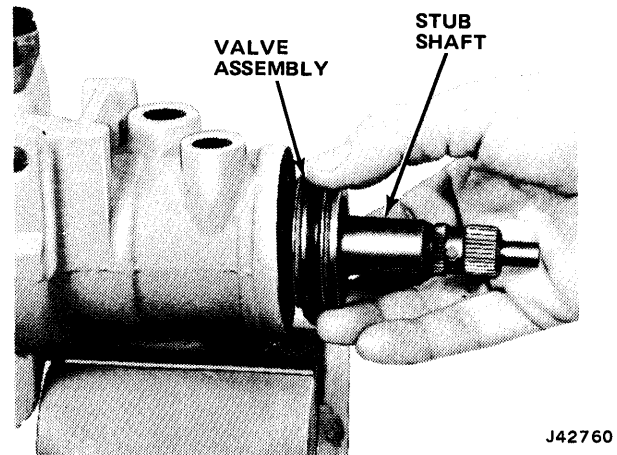

Fig. 11-88 Installing Valve Body
(5) Install wormshaft lower thrust bearing and races on end of wormshaft. Installation sequence is: race—bearing—race. Coned ends of races must face rack piston when installed.
(6) Install assembled valve body and wormshaft in housing. Align valve body drive pin in wormshaft with narrow pin slot in valve body before inserting valve body in housing (fig. 11-88).
**CAUTION:** Do not push against the stub shaft to install the valve body. This may cause the stub shaft to disengage from the valve body allowing the spool valve O-ring to slip into the valve body oil grooves. Install the valve body by pressing directly on the valve body with the fingertips only (figs. 11-88 and 11-89). Before installing the adjuster plug, be sure the valve body is properly seated. Most of the oil return hole in the gear housing should be fully visible when the valve body is fully seated. If not, the valve body and wormshaft are misaligned or the thrust bearing and races are improperly installed.